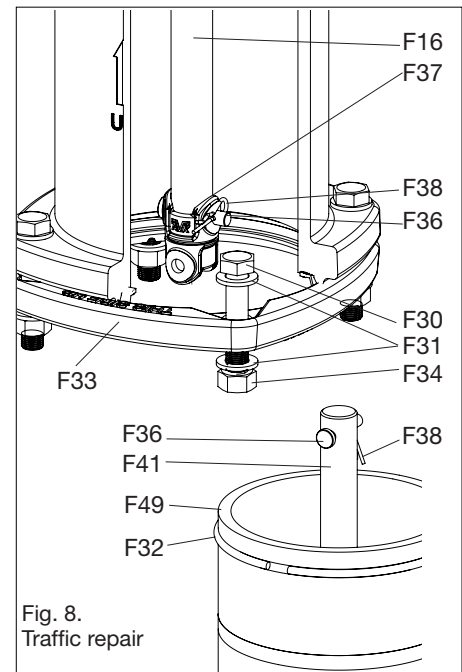

Fig. 8.
1. Remove the hardware (F30, 31, 34) from the breakable flange (F33). Slide the lock ring (F32) off of the lower barrel (F49) (see fig. 8).
**WARNING:** Be sure the breakable flange (F33) is right side up, indicated with the text “This Side Up”, facing towards the nozzle section (See fig. 8 & 9). Slide a new lock ring (F32) into the groove on the lower barrel.